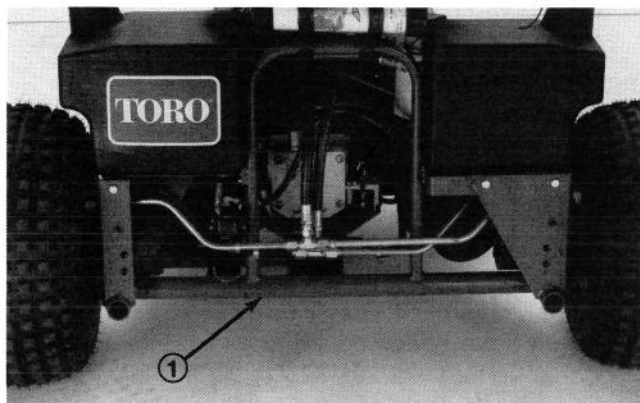

Figure 1
INSTALL WHEELS (Fig. 1)
3. Place a jack under the tubular frame (Fig. 1).